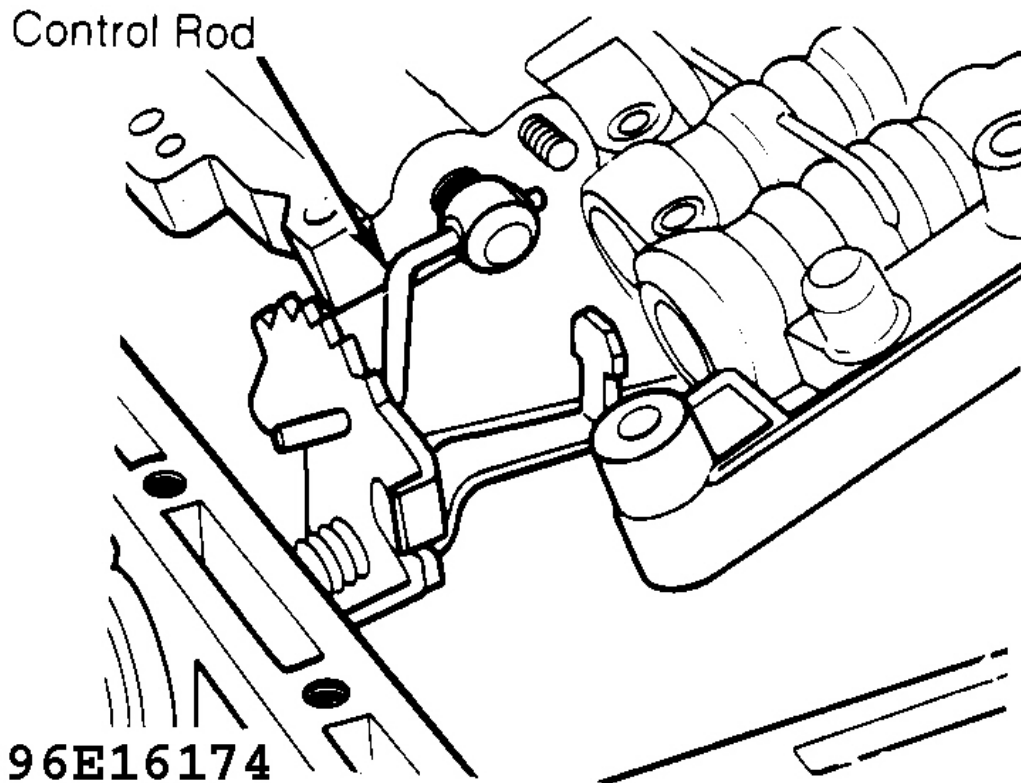

Fig. 43: Interior View of Transmission Case
18. Using new gasket, place control valve body in position. Attach and lock connecting rod to manual valve. See **Fig. 43**. Be careful not to bend connecting rod ("Z" link). Install and finger tighten retaining bolts "A" and "B" to locate control valve body. See **Fig. 2** for bolt locations.